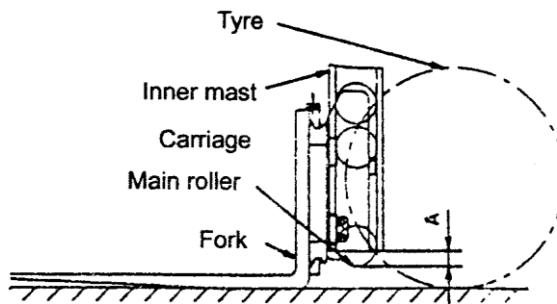

Fig.8.4
- (1) Park forklift on horizontal place and let mast vertical.
- (2) Put the bottom of fork onto ground, screw the adjustable nut at the end of joint and let main idler wheel come out 1/4-1/3 of its radius. See Fig8.4.